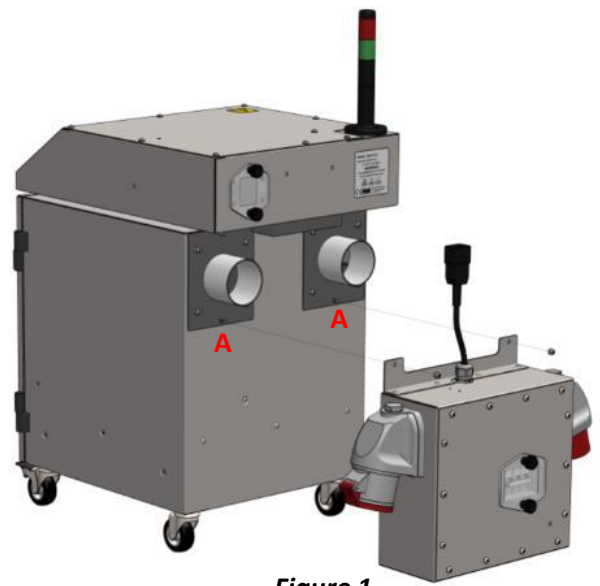

Figure 1
3. Using an M5 tool remove the two lower bolts on the spark arrestors spigots (See point "A" on figure 1).